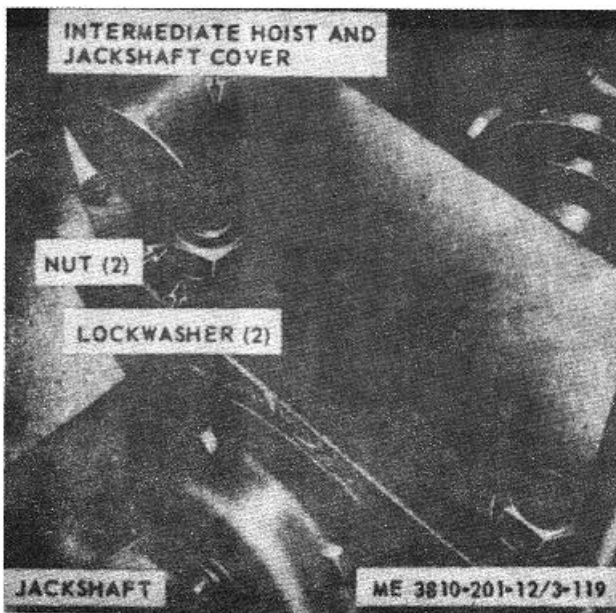

Figure 3-106. Intermediate hoist and jackshaft cover, removal and installation.
g. *Intermediate Hoist and Jackshaft Cover, Removal and Installation.* Refer to figure 3-106 and remove intermediate hoist and jackshaft cover. Install in reverse order.
(1) Clean all parts in an approved cleaning solvent and dry thoroughly.
(2) Visually inspect guards and covers for cracks, breaks, or dents. Inspect mounting hardware for burs, stripped threads or other damage.
(3) Repair by welding cracks or breaks, straightening dents, or replacing defective hardware, guards, or covers.